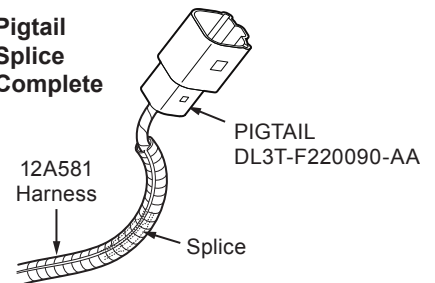

FIGURE 4
4. Plug new short jumper (DL3T-F221050-AA) into the OAT Sensor secured to the radiator support. **See Figure 4**